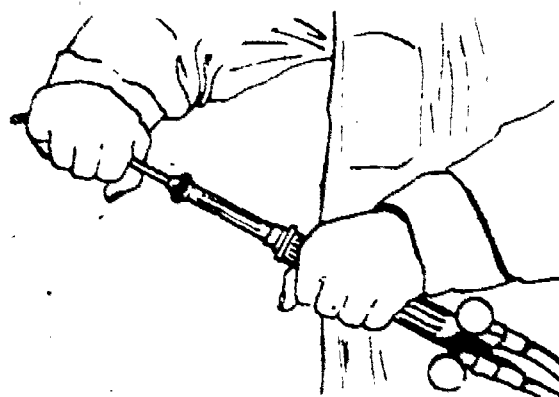

Figure 13. Attach Tip to Handle
9. Attach a tip to the torch handle (see figure 13).